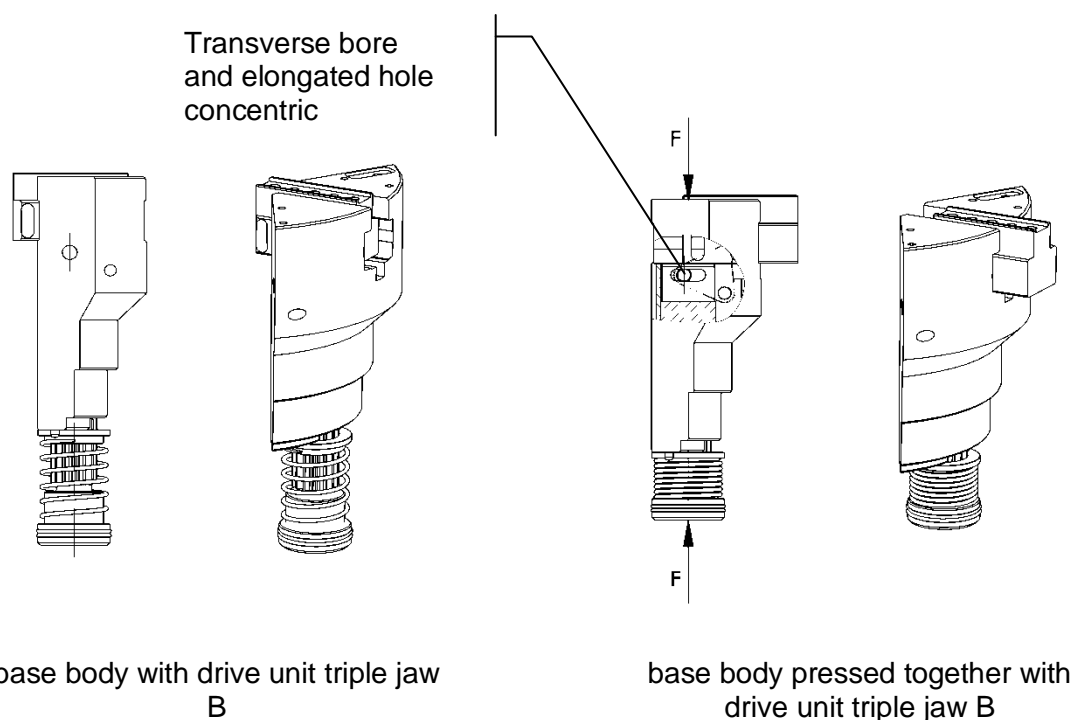

Figure 48: Disassembly of base body with drive unit triple jaw B
- Use a vice, for example, to press the base body triple jaw B (item 12) and the drive unit triple jaw B together (see **Figure 48**).